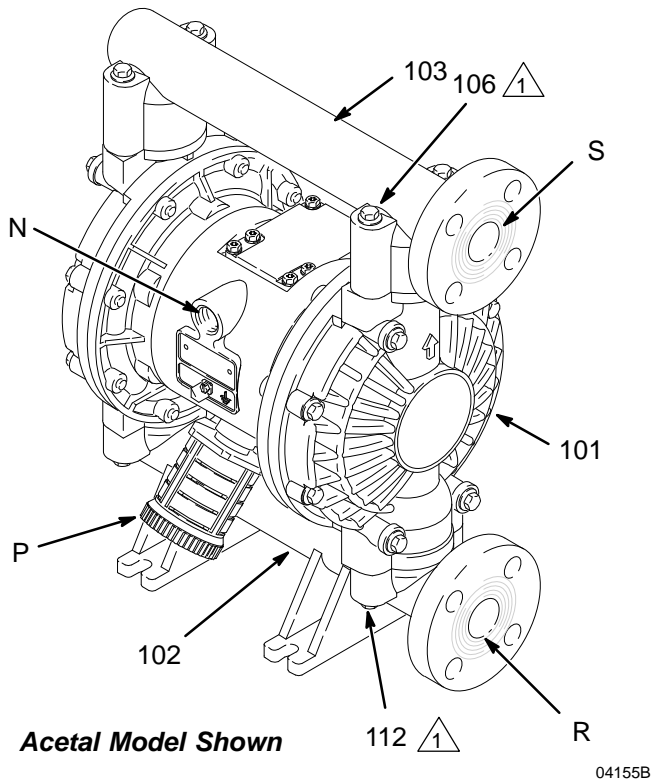

Fig. 4
The pump is shipped with the fluid inlet (R) and outlet (S) ports facing the same direction. See Fig. 4. To change the orientation of the inlet and/or outlet port:
1. Remove the screws (106 or 112) holding the inlet (102) and/or outlet (103) manifold to the covers (101).
2. Reverse the manifold and reattach. Install the screws (106 or 112). Torque the manifold screws to 9–10 N•m. See Fig. 4. See **Torque Sequence**, page 30.